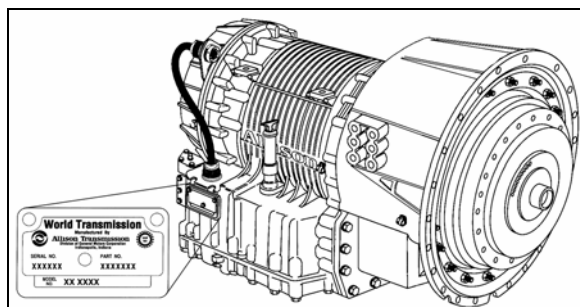

FIGURE 2: ALLISON TRANSMISSION 07076
The transmission identification plate is located on the oil level dipstick side of the transmission (WT) or on transmission, on the vehicle R.H. side (ZF) (Fig. 2 & 3). The identification plate shows the transmission serial number, part number (assembly number), and model number. Use all three numbers when ordering parts.